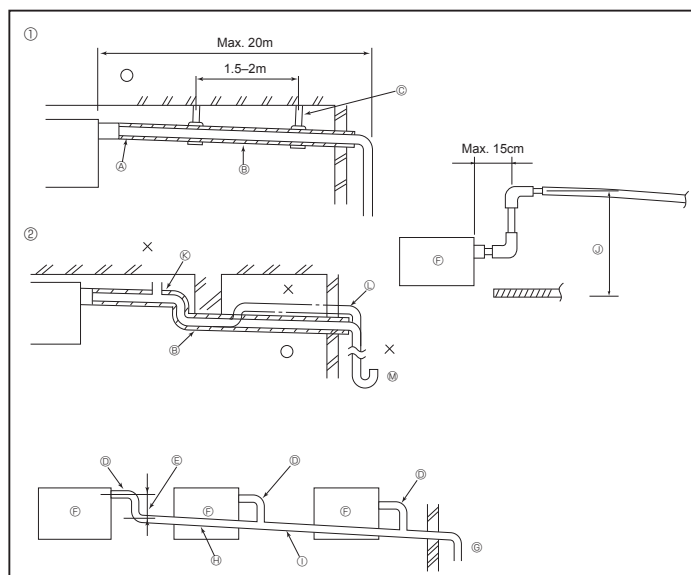

Fig. 3-1
3.1. Drainage piping work (Fig. 3-1)